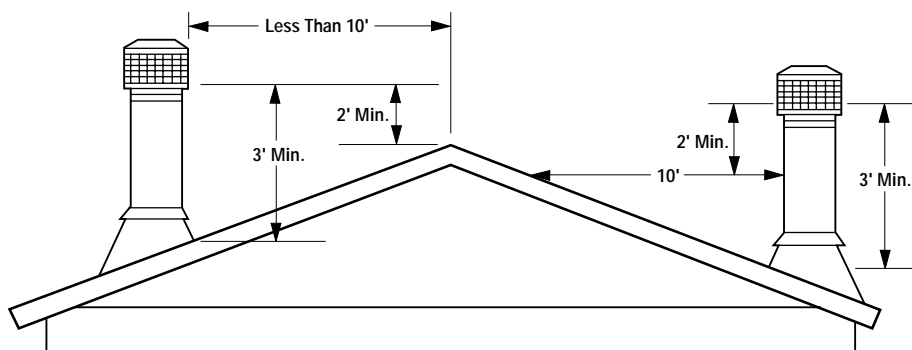

Figure 8
8. Figure 8 illustrates the correct height of your chimney top. It is unlikely that your installation does not adhere to the installation instructions. However, if not correct, you could experience an unusual downdraft. Usually, the best solution is to increase the chimney height. This may also be necessary if nearby trees, adjoining roof lines or a hill is causing a downdraft condition.